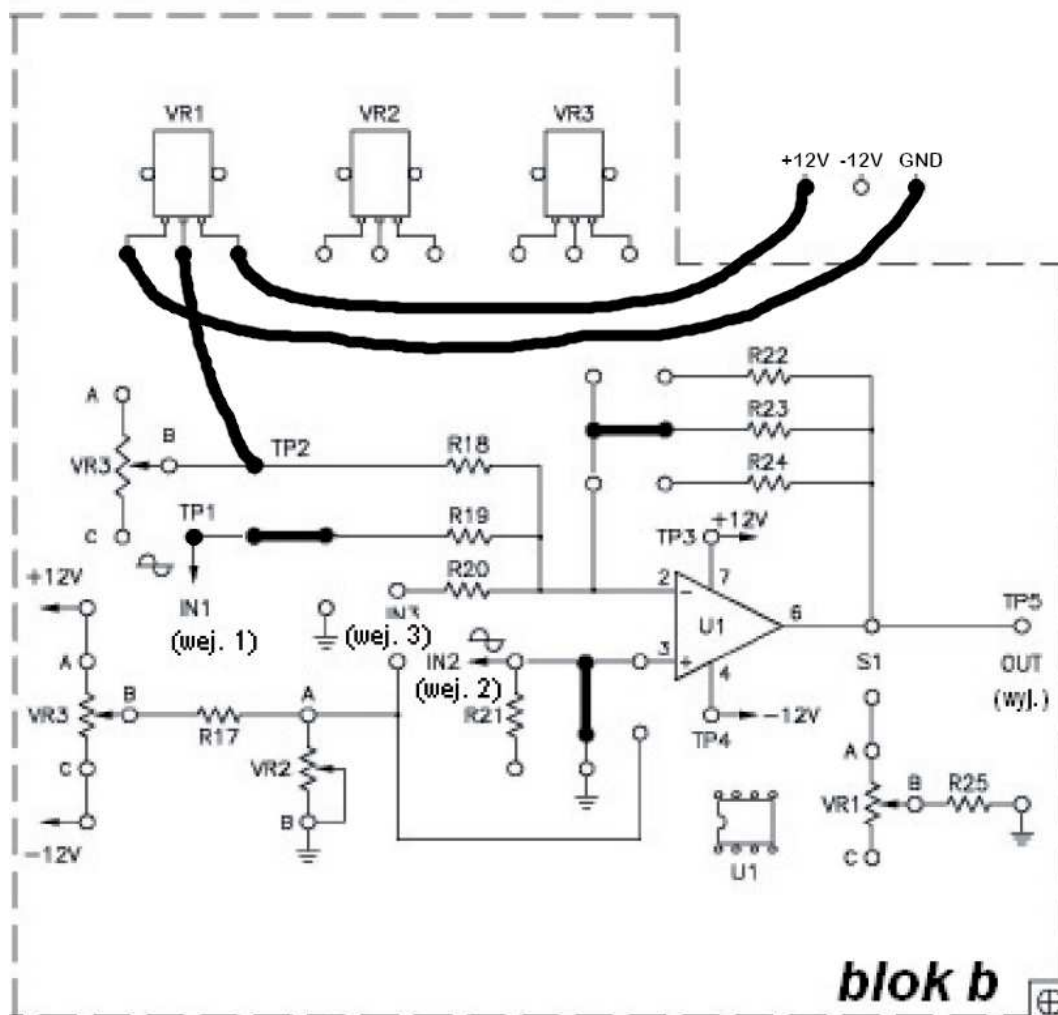

Fig. 4: Electrical assembly schematic (KL-25006 part b)
1. Make the connections according to the assembly schematic fig. 4. The circuit should be powered with + 12 V_{DC} and – 12 V_{DC}.